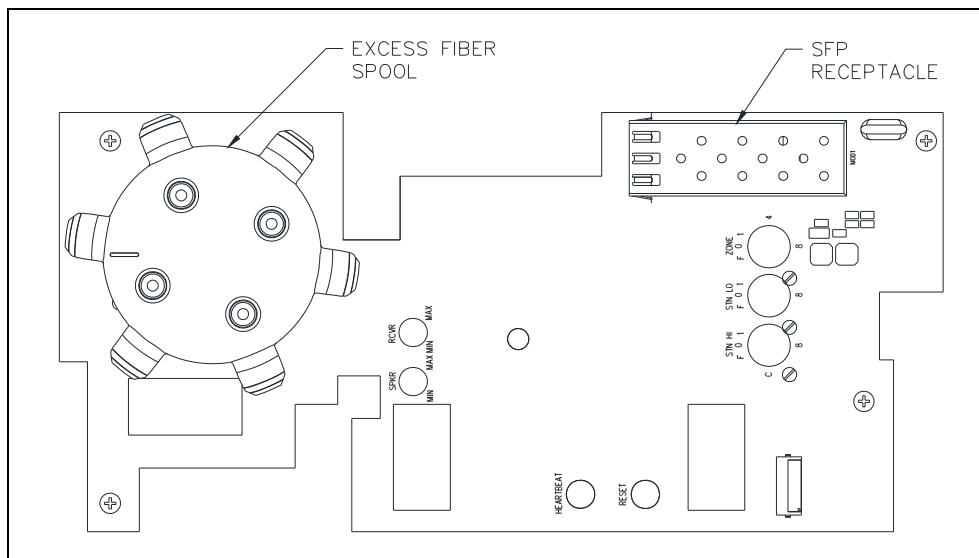
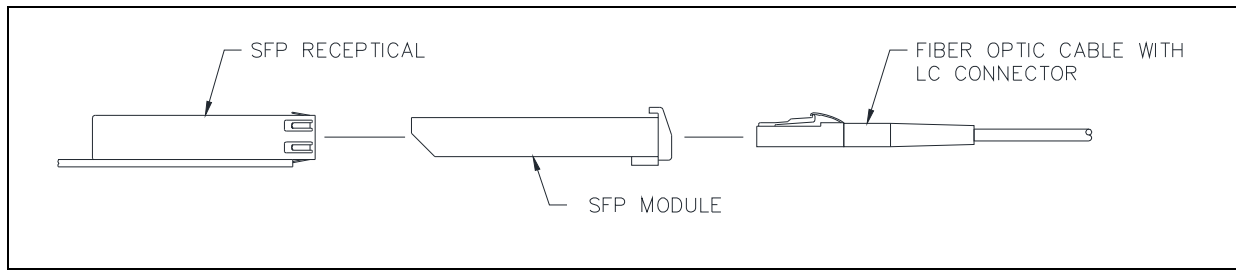

Figure 10. Fiber Termination PCBA
Figure 11. SFP Transceiver Insertion and Fiber Plug-in
The fiber termination PCBA (see Figure 10) mounts to the top of the main PCBA. Exact fiber termination is installation dependent because the fiber optic cable and SFP (Small Form-factor Pluggable) transceivers used in SP2 system installations are customer supplied. Here are the basic steps for terminating the fiber optic cable to the SP2 station:
1. Insert the SFP transceiver into the SFP receptacle (see Figure 10 and Figure 11).
4. Plug the fiber connector into the SFP (see Figure 11).